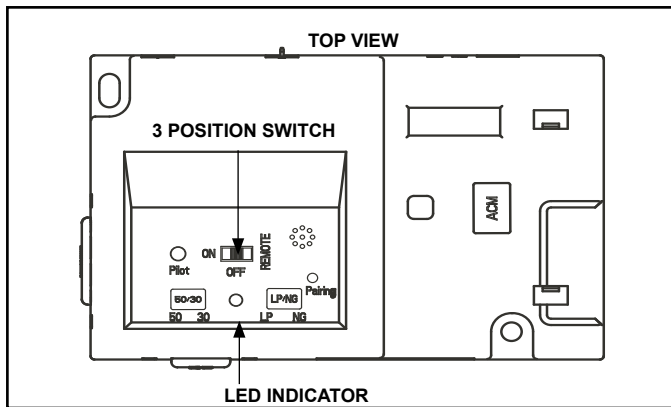

Figure 3.6 IFT-ECM
1. The Electronic Control Module (IFT-ECM) has a three-position ON/OFF/REMOTE selector switch that must be set for proper operation. See Figure 3.6. When changing switch positions, it is important to pause in each position for 1-2 seconds. ←